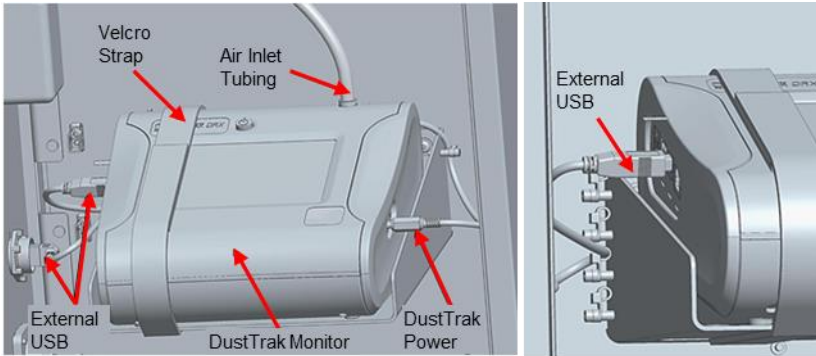

Figure 22: Install DustTrak Monitor in the Bracket
1. Install the DustTrak monitor into the shelf as shown in Figure 22 and tightly secure in place with the Velcro® straps. Attach the Power and USB cables as shown (USB cable used for GSM/GPS communication modem accessory).